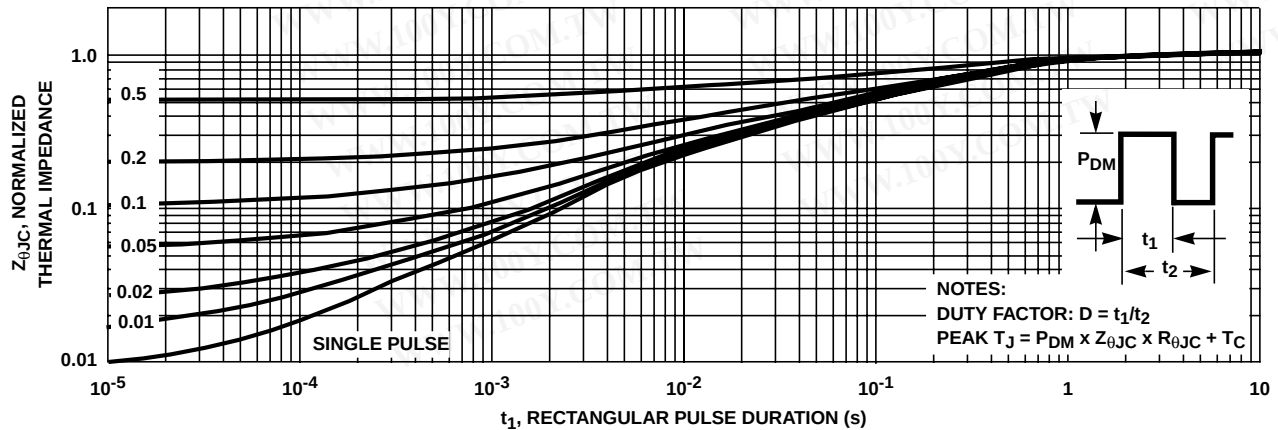

FIGURE 3. NORMALIZED MAXIMUM TRANSIENT THERMAL IMPEDANCE
- Repetitive rating: Pulse width limited by maximum junction temperature. See Transient Thermal Impedance Curve (Figure 3).